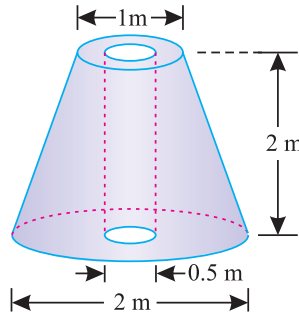

Fig. 6.28.
**Example 6.17.** A frustum of a solid right circular cone has an axial hole of 50 cm diameter as shown in Fig. 6.28.